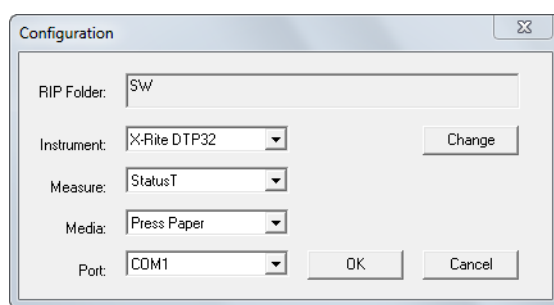

Figure C.1 Configuration dialog box
1. Choose **File > Configure** to display the Configuration dialog box, as shown in Figure C.1.
RIP Folder	Identifies the SW folder of the RIP installation that you are using to print targets and import data. You can read targets that have been created by the RIP running on another computer if you have network access to the corresponding SW folder. If you want to do this, click Change and use the file browser to select the SW folder of the remote the RIP installation. The default is the relative path to the SW folder of the the RIP with which Genlin is supplied (as shown in Figure C.1).